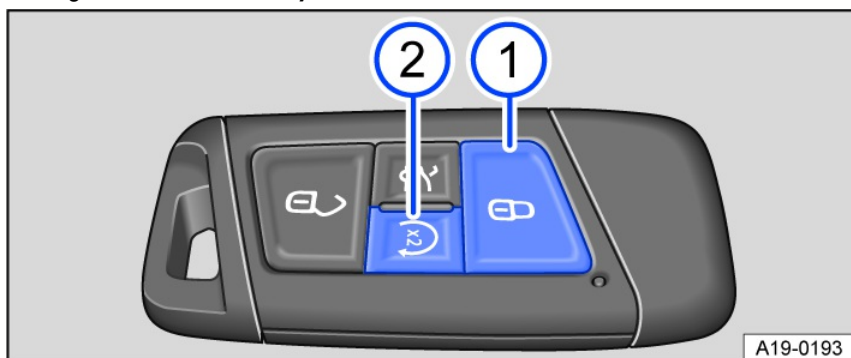

Fig. 116 Vehicle key with remote start relay function.
1. Press the button  once *fig. 116*.
2. Press the  button twice *fig. 116*.
1. Press the  button on the remote control vehicle key to switch off the engine *fig. 116*.